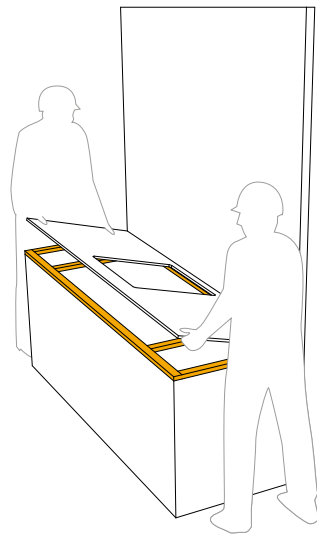
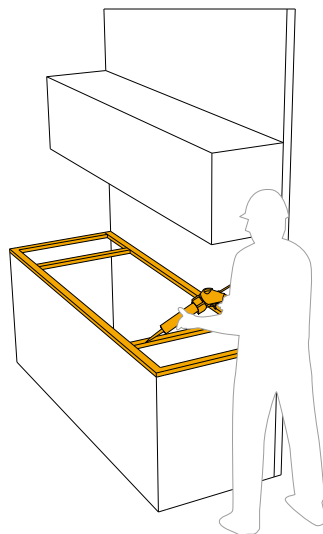

fig. 3
fig. 4
- The slabs can also be cut using a dry or water-blade saw with a diamond disc (fig. 4);
- **12 mm and 20 mm:** it is possible to use a slatted structure with evenly distributed traverses around the entire perimeter (fig. 3). If one or several holes are planned for the countertop it will be necessary to reinforce those parts most subject to strain (fig. 4);
- Place the countertop on the surface, slipping it into place (fig. 3).
- Hold the countertop over the surface, sliding it into place (fig. 3).